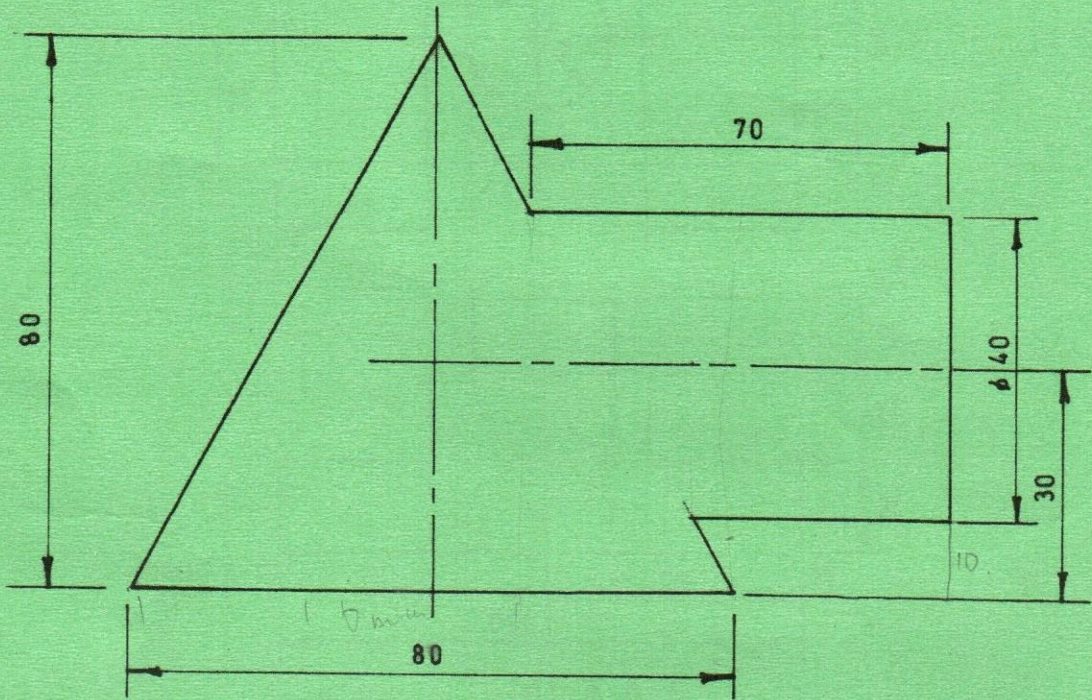

Fig. 5
5. Figure 5 shows an elevation of a cylinder intersecting a right cone at the centre. Copy the given elevation and draw the following: